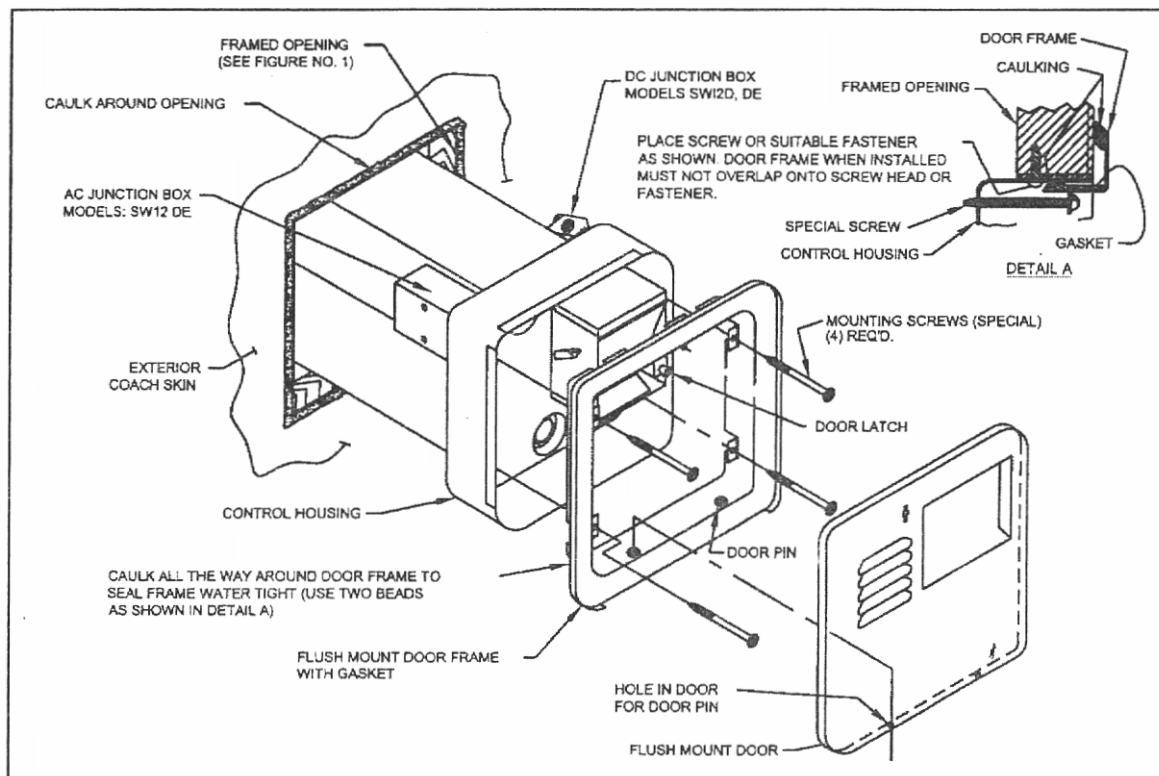
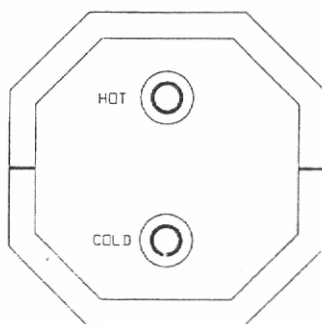
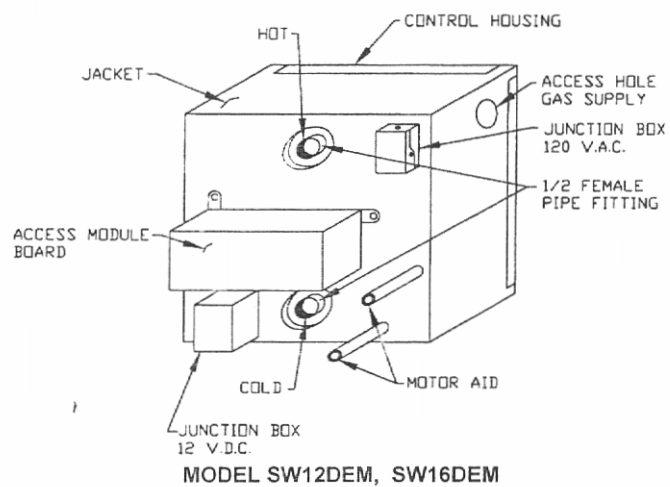

Figure 2
Figure 3
Figure 5
INSTALLATION USING FLUSH MOUNT FRAME & DOOR (See Figure 2 for Illustration)
A. Water connections are made at the rear of the water heater. Refer to Figure 3 for all models except SW12DEM, SW16DEM. For SW12DEM, SW16DEM, refer to Figure 5. Connect the hot and cold water lines to the 1/2" female pipe fitting provided on rear of tank. These fittings are marked "HOT" and "COLD". **NOTE:** Inside each fitting is a plastic fill tube. Its purpose is to enhance water circulation. **DO NOT REMOVE PLASTIC FILL TUBE.**
B. Refer to Figure 2 for location of D.C. junction box on models SW12D, SW16D, SW12DE and SW16DE. Refer to Figure 5 for location of D.C. junction box on model SW12DEM or SW16DEM.
B. Refer to Figure 2 for location of A.C. junction box on models SW12DE or SW16DE. Refer to Figure 5 for A.C. junction box on models SW12DEM or SW16DEM.